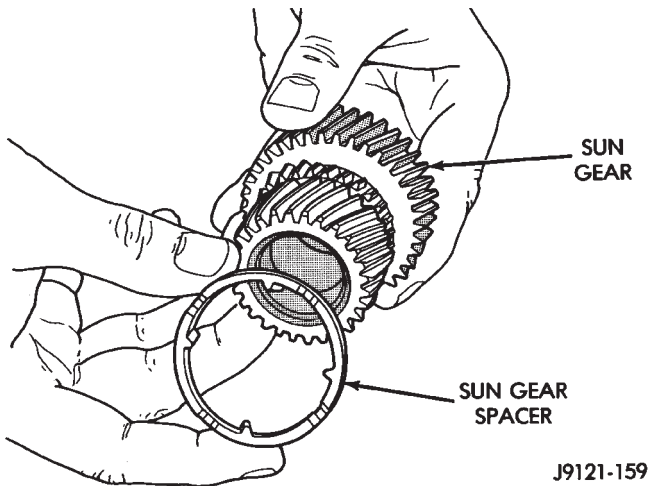

Fig. 179 Installing Spacer On Sun Gear
(7) Install spacer on sun gear (Fig. 179).